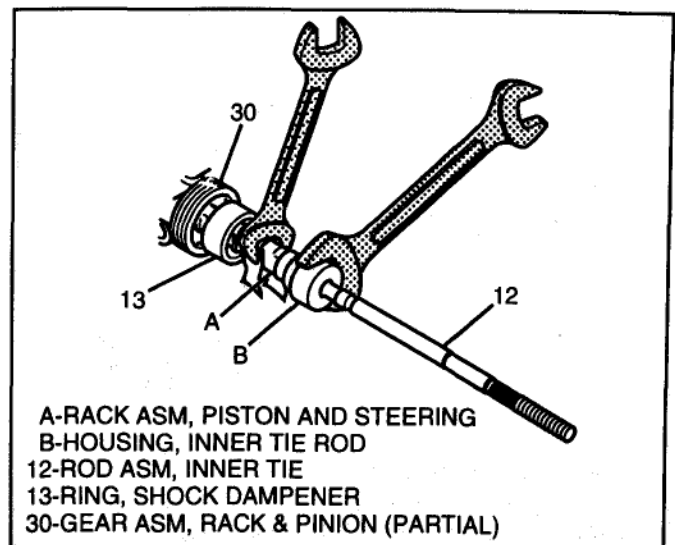

Figure 7 Inner Tie Rod Removal
3. Shock dampener (13) from inner tie rod assembly (12) and slide back on rack (see Figure 7).
4. Inner tie rod assembly (12) from rack assembly as follows: (See Figure 7.)
- Rotate inner tie rod housing counterclockwise until inner tie rod (12) separates from rack.